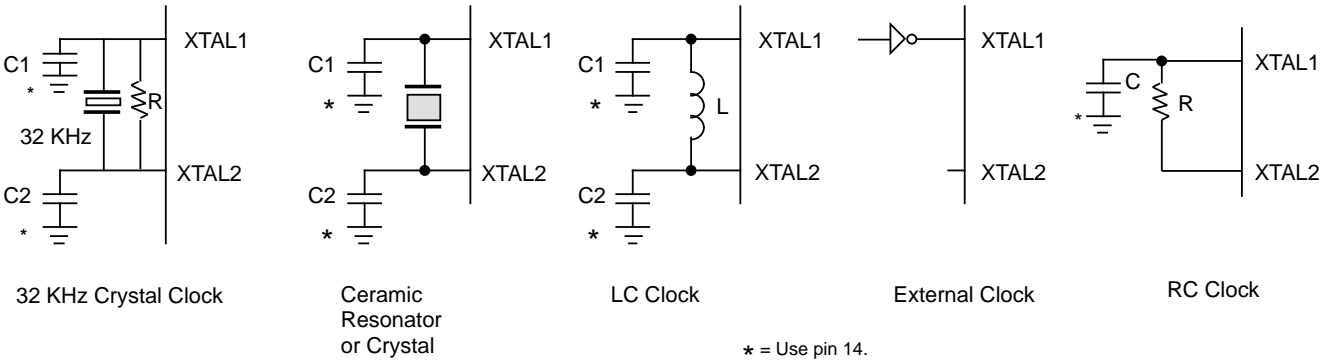

Figure 15. Oscillator Configuration
**Interrupts.** The Z8 has six interrupts from six different sources. These interrupts are maskable and prioritized (Figure 15). The six sources are divided as follows: the falling edge of P31 (AN1), P32 (AN2), P33 (REF), the rising edge of P32 (AN2), and the two counter/timers. The Interrupt Mask Register globally or individually enables or disables the six interrupt requests (Table 3).